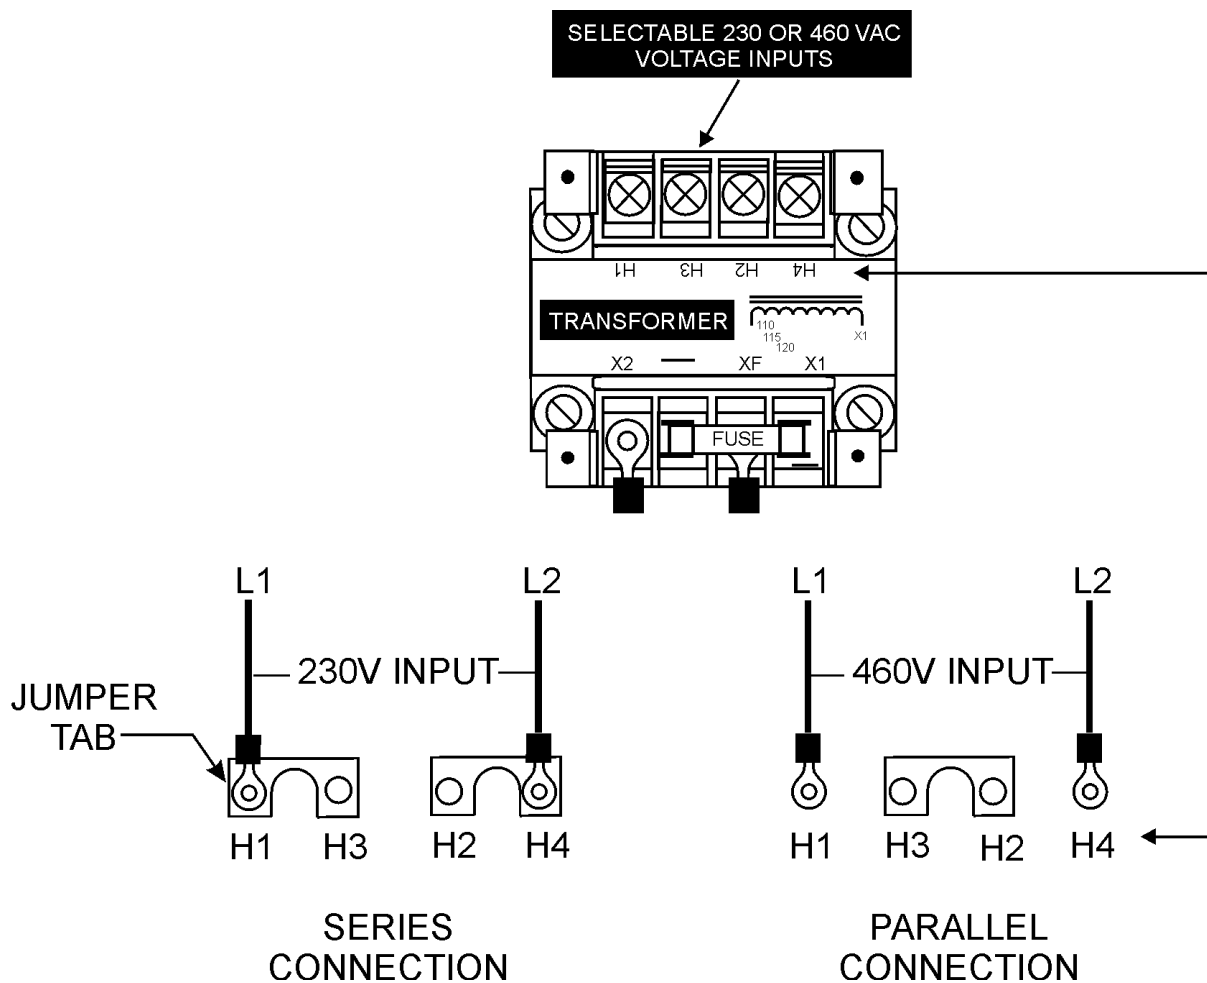
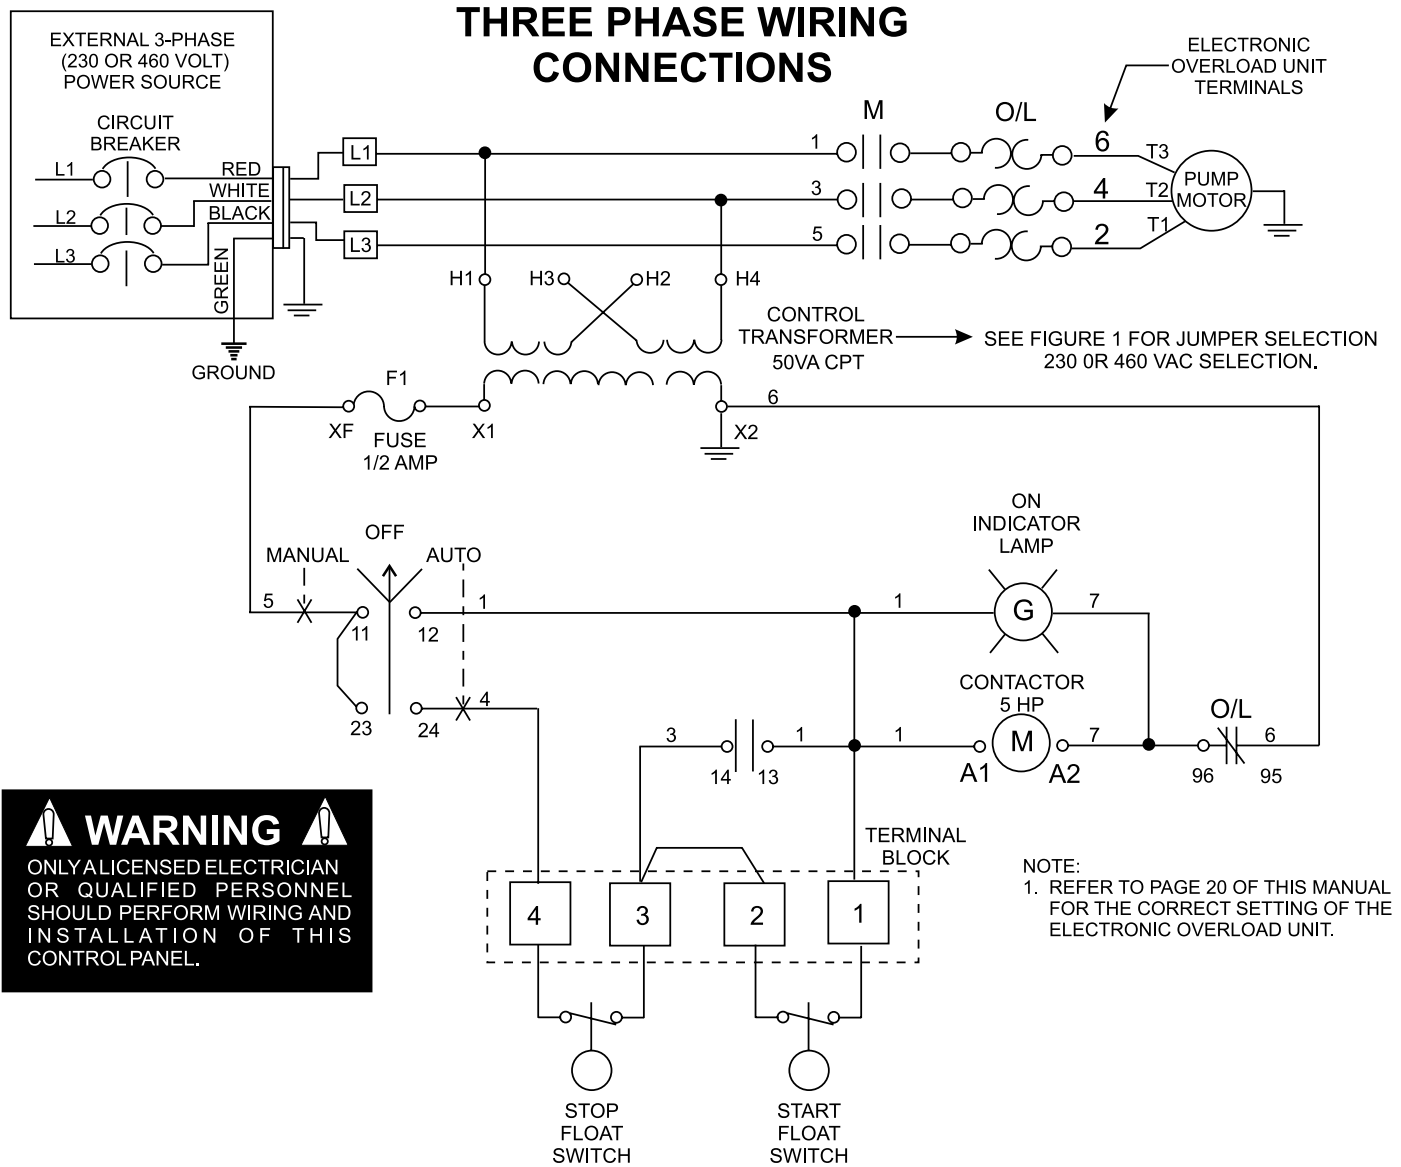
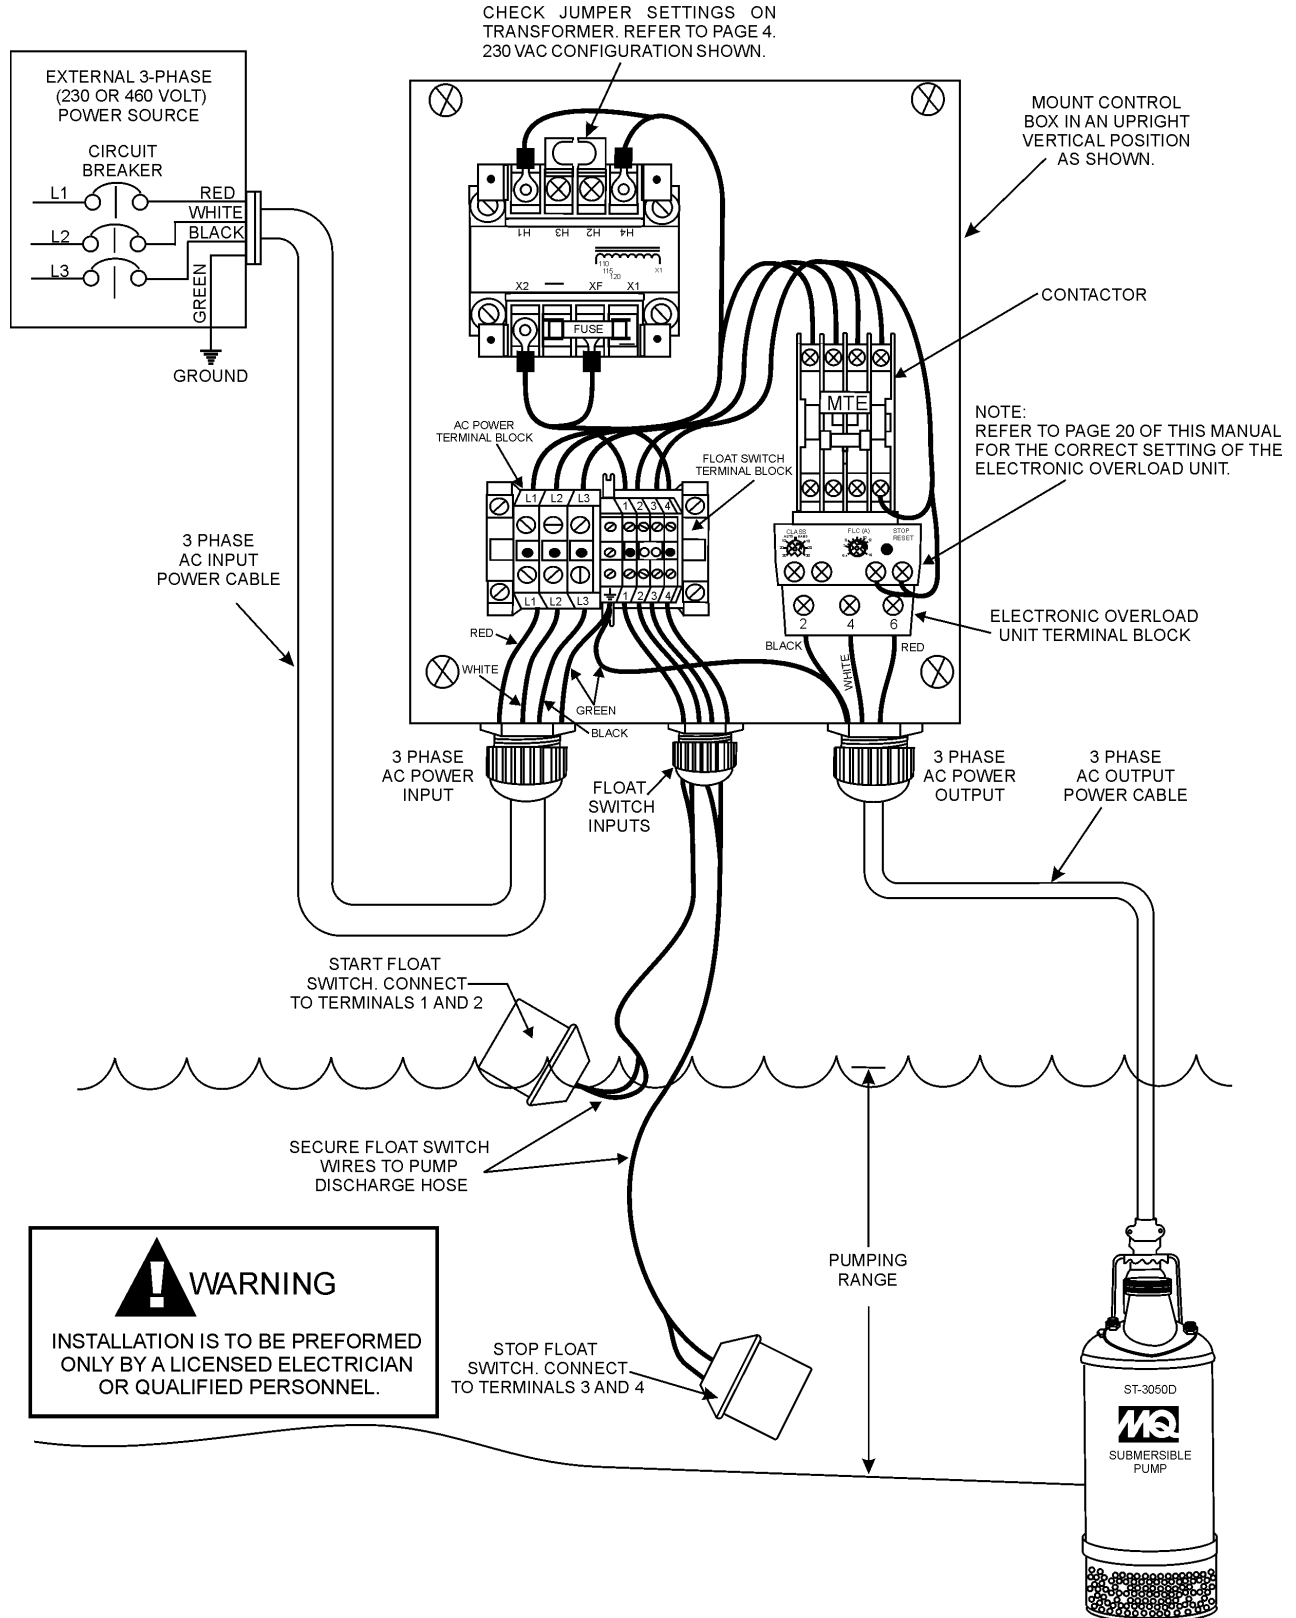

Figure 6. Transformer AC Voltage Settings (Jumper Tabs)
Figure 7. Control Box Wiring Diagram
Figure 8. 3-Phase Control Box/Pump System Diagram
1. Remove the float switch input connector housing, then route the float switch wires through the cable gland on the control box. Attach the wires to the float switch terminal block as indicated by Table 4. Reference Figure 7 and Figure 8.
Pump motors are factory set at 230 VAC. The transformer (Figure 6) of this control box must be set to the voltage requirements of the pump in use. Refer to the attached wiring diagram located inside the "Control Box" or reference Figure 7 and Figure 8. Use the two supplied jumper tabs to set the transformer to the required output voltage.
2. Remove the 3-phase AC input connector housing from the control box, then route the three phase input power cable through the cable gland on the control box. Attach the wires to the AC terminal block inside the control box as indicated by Table 5 and Figure 8.
2. Remove the 3-phase AC output power connector housing on the control box, then route the three phase output power cable through the cable gland on the control box. Attach the wires to the AC terminal blocks on the electronic overload unit as indicated by Table 6 and Figure 8.